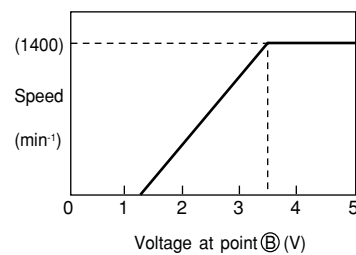

Fig. 7-3
Fig. 7-3 shows the relation between the voltage at the point (B) and the speed. (Some differences will occur due to the condition of the unit.)
- The fan motor outputs the feedback pulse of the speed, which is input into the pin (14) on the micro computer. This pulse is equivalent to a frequency of $12/60$ speed. (Example: $1000 \text{ min}^{-1} \times 12/60 = 200 \text{ Hz}$)